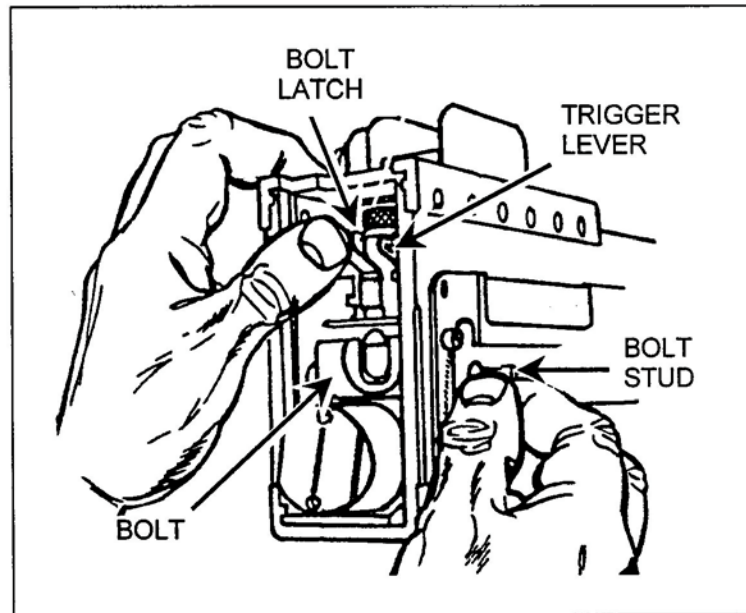

Figure 7. Unlatch the bolt.
- (2) If you accidentally move the bolt all the way to the rear, the bolt latch will engage in the bolt latch notches in the top of the bolt. If this occurs, raise the bolt latch and push the bolt forward to align the bolt stud with the clearance hole (Figure 7).